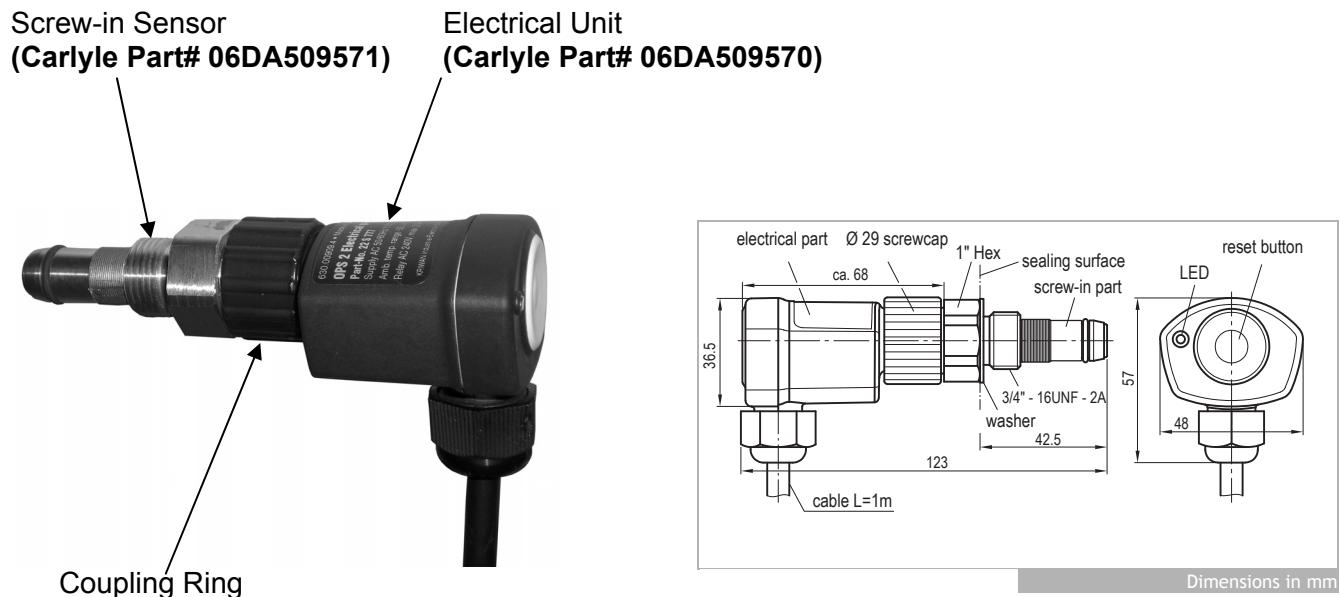

Figure 1
- The OPSS electrical unit is fastened by a coupling ring to the screw-in sensor and can be removed without opening the oil/refrigeration circuit (not in direct contact with the oil circuit). See figures 1 & 2.